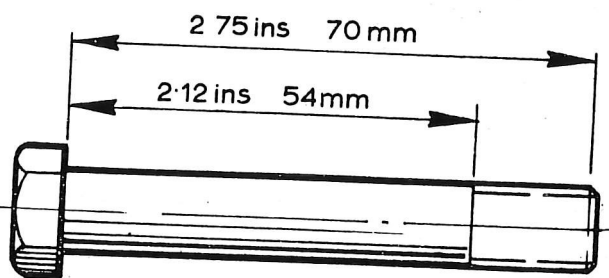

Fig 20 Coupling Bolts
2. The correct bolt for the nine positions per side, other than through the brake disc, is a special UNF bolt (36 D 172 as shown in Fig.20). The other three bolts (to make 12 per side) which also retain the brake disc should be 3.25 in. X 7/16 in. in size (XUFB 0752).